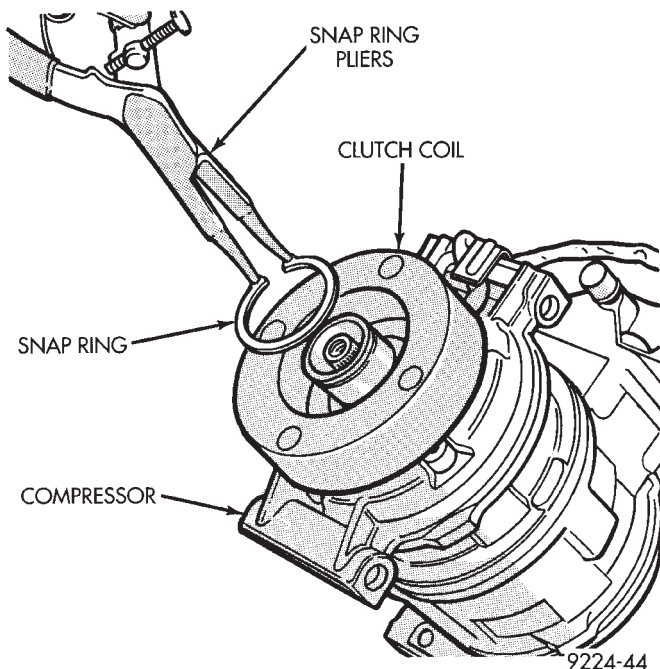

Fig. 4 Clutch Coil Snap Ring
(5) Remove snap ring retaining field coil onto compressor housing (Fig. 4). Slide field coil off of compressor housing.